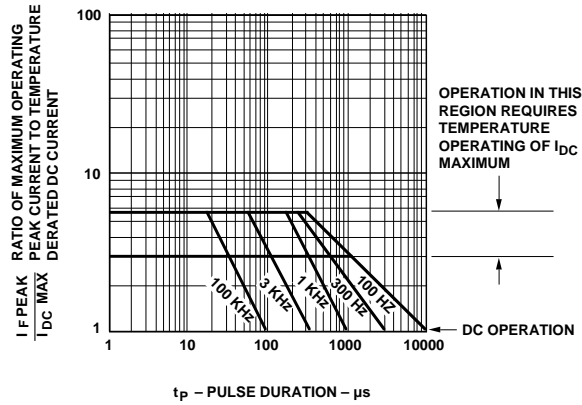

Figure 7. Maximum Tolerable Peak Current vs. Pulse Duration – Yellow.
5. See Figure 7 to establish pulsed conditions.